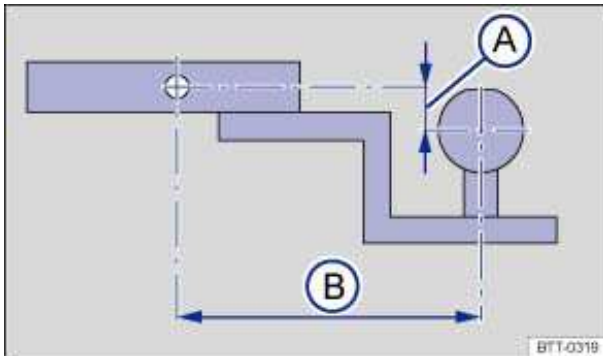

Fig. 115 Dimensions of the ball mount support.
The receiver used requires both a ball mount and a ball that meet special requirements regarding geometry and size. This applies to both the height of the ball above the surface where it attaches ⇒ fig. 115 (A), and the pin-to-ball distance (B).